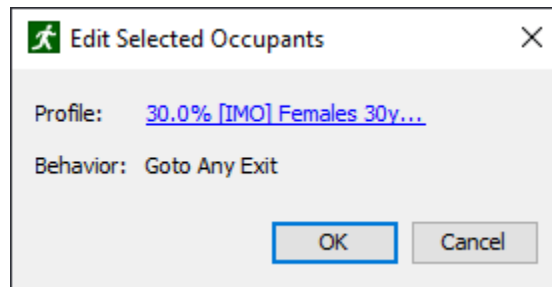

Figure 126. Edit Selected Occupants dialog
1. Select occupants, right-click one of the selected occupants either in the Navigation view or Model view, and then select **Properties** from the right-click menu. To edit a single occupant or group, double-click the occupant or group in the Navigation view. The Edit Selected Occupants dialog will appear as shown in Figure 126.